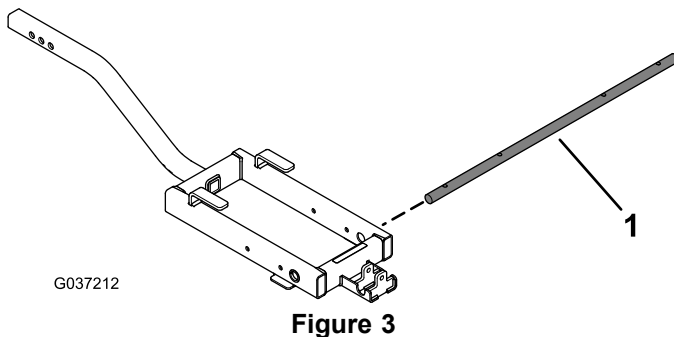

Figure 3
2. Slide the spreader-pivot shaft through the spreader-mount frame and clip bushings (Figure 3).